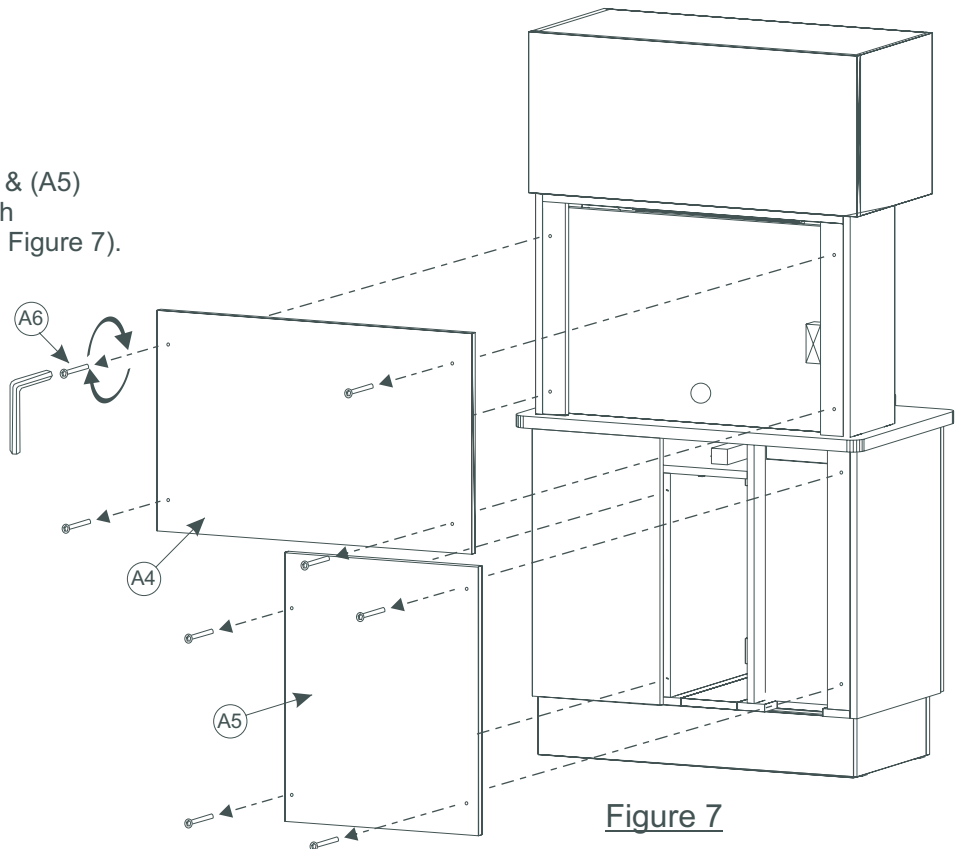

Figure 7
Install Upper/Lower Back Panels (A4) & (A5) by securing (4) Allen Bolts (A6) to each panel using a 4mm Allen Wrench (see Figure 7).